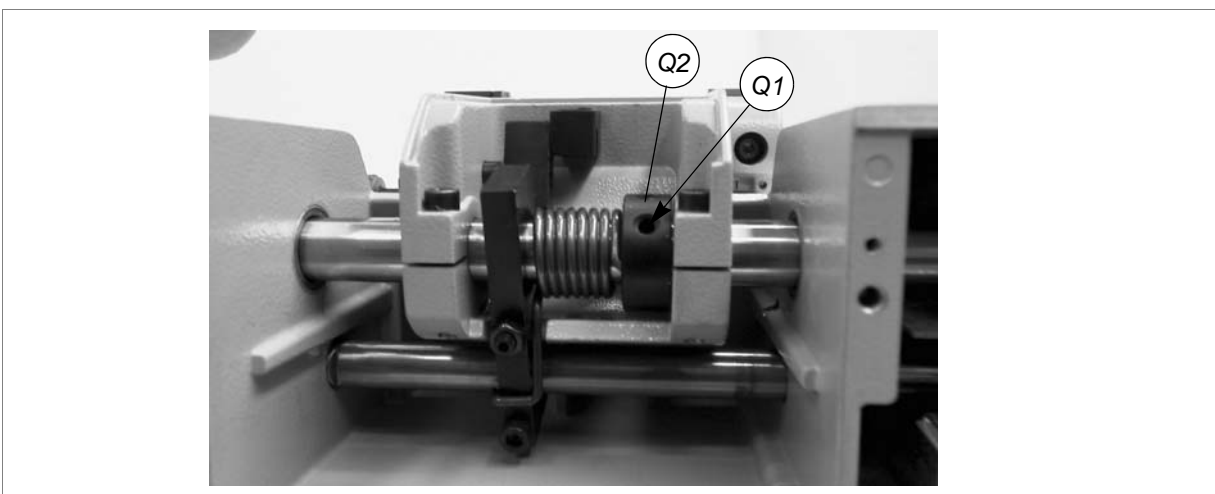

Fig. 48
- 13) Loosen the grub screw (Q1) on the spring ring nut (Q2) (fig. 48, page 29).